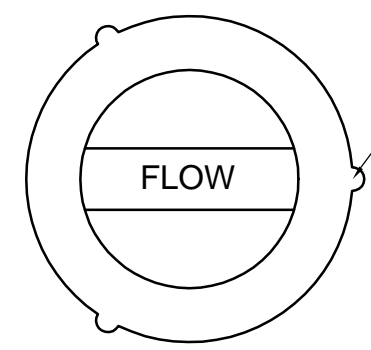

FIG 4
- 5) Thickness of the original hoist Lever must also be replicated to allow satisfactory installation, to achieve this the counterbore within the ATL adaptor part must be machined to the required depth (fig 4)